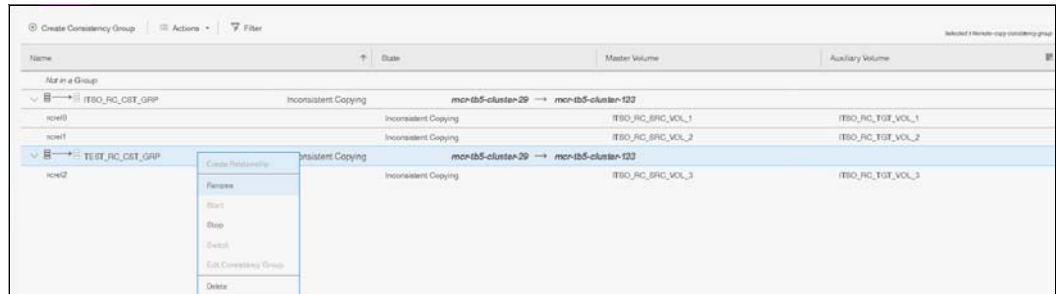

Figure 10-124 Renaming a Consistency Group
2. In the pane, select the Consistency Group that you want to rename. Then, select **Actions** → **Rename**, as shown in Figure 10-124 on page 578.